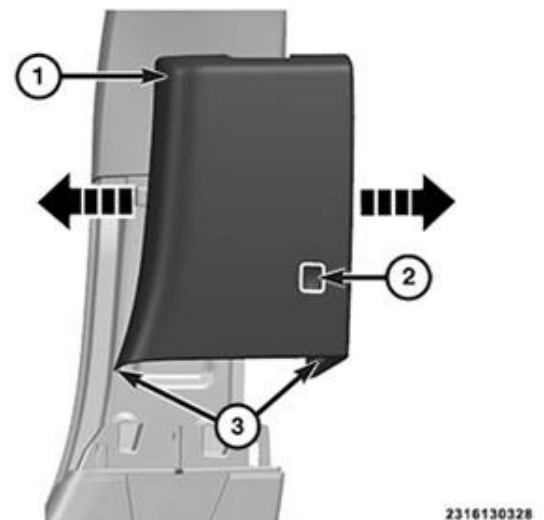

Figure 5 – B-Pillar Extension
15. Spread the bottom flanges of the B-pillar extension apart to disengage the lower side snaps, then use a trim stick or equivalent to disengage the remaining clips. Pull at the top edge seat belt opening to disengage the top retainers (Figure 5).